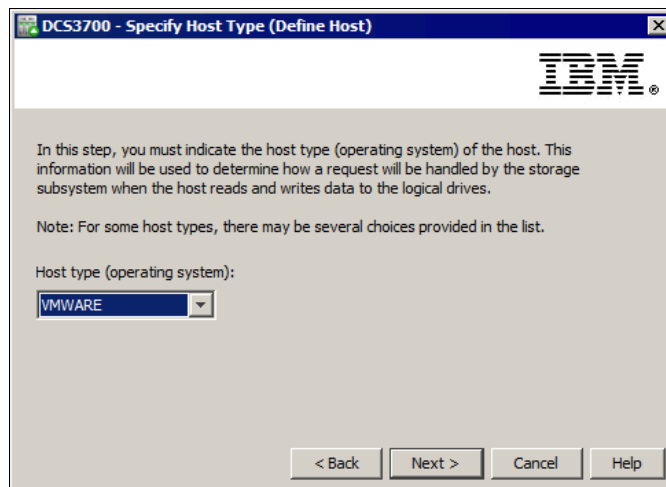

Figure 10-7 Define Host - Specify Host Type
5. The next window requires you to specify the host type (Figure 10-7). This is the operating system that is running on the host. It is vital that you select the appropriate host type because the multipath drivers and ADT/AVT settings rely on this setting. In addition, this is the part of the configuration where you configure the heterogeneous host support. Each operating system expects slightly different settings and handles SCSI commands differently. If you make a wrong choice, your operating system might not recognize LUNs anymore or path failover might not work. Select a host type version that supports clustering if you plan to configure the host as a cluster node.